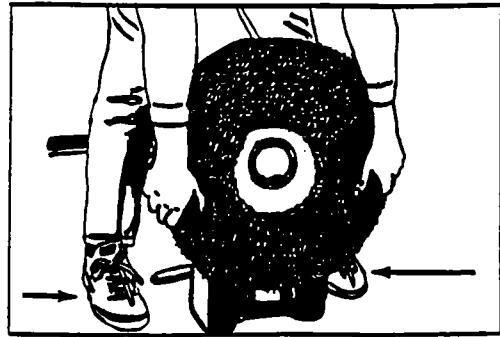

Figure 1
4. Put one foot on each side of the machine. See figure 1.